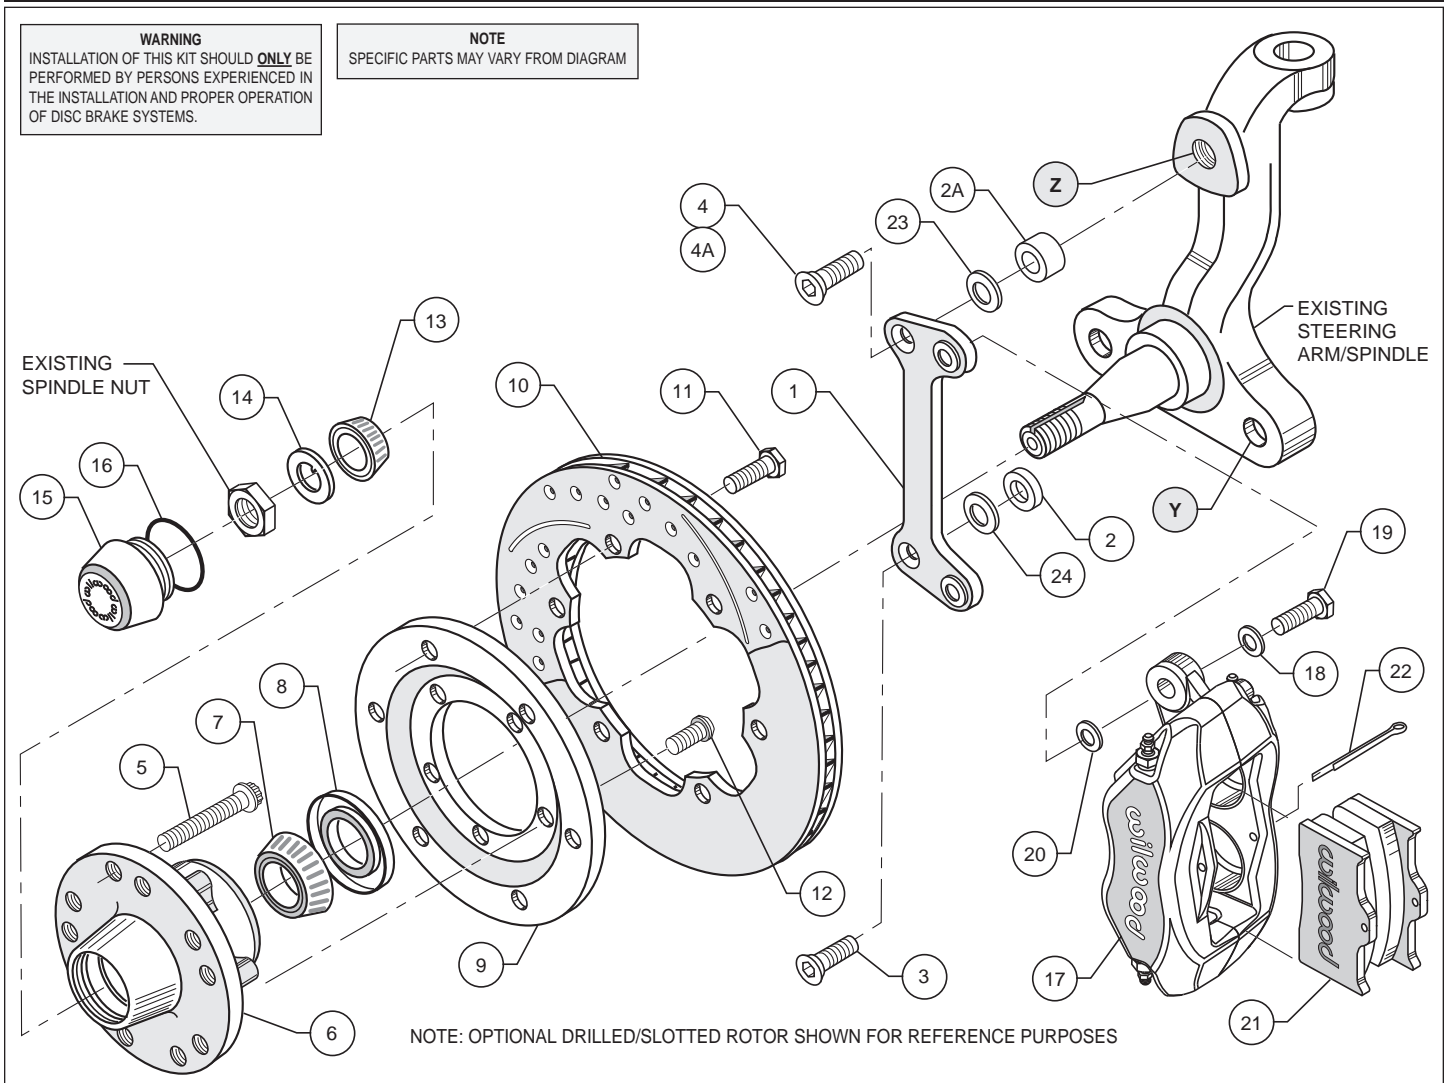
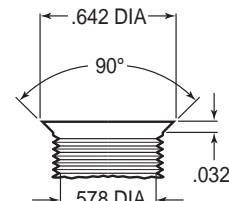

Figure 1. Typical Installation Configuration
Figure 3. Drill and Tap Detail
•**NOTE:** 1964-66 spindles may require the following modifications (reference Figure 1 and Figure 3): Top anchor pin hole (Z) must be drilled and tapped to the dimensions as outlined in Figure 3. Bottom rear steering arm bolt hole (Y) in the spindle and steering arm must be enlarged to .50" by drilling. A 1/2-20 backing nut (not supplied in kit) will need to be acquired to torque bracket / steering arm bolt (supplied in kit).
•Apply red *Loctite*® 271 to bolt threads (3 and 4, or 4A for disc spindle application) before assembly of the caliper mounting bracket (1). Mount bracket (1) to dust face plate of spindle using the bottom bolt (3) while positioning spacer (2) between bracket and spindle face, finger tighten only. Install the upper bolt 4 (or, for disc brake spindle, use 4A with spacer 2A positioned between bracket and top hole of spindle face), torque to 120 ft-lb. Torque bolts (3) to 77 ft-lb. **NOTE:** Be sure the heads of the bracket (1) insert nuts are facing outward toward the wheel. **NOTE:** Because of a tolerance variation among spindles, it may be necessary to install a shim washer (23 and/or 24) between the spacers (2 and/or 2A) and the bracket (1) in order to square the bracket to the rotor.
•Install wheel studs (5) into the hub (6). Torque to 77 ft-lb. **NOTE:** There are two five lug patterns in the hub (5 x 4.50 and 5 x 4.75). Make sure of the correct hole pattern for the correct wheel application before installing studs into hub.
•Pack the large inner bearing cone (7) with high temperature disc brake bearing grease (available from your local auto parts store) and install into the backside of the hub (6).
•Install the grease seal (8) by pressing into the backside of the hub (6).
•Mount the adapter/rotor assembly (9/10) to the hub (6) using bolts (12) (finger tight), as shown in Figure 1. Using an alternating sequence, remove bolts one at a time, apply red *Loctite*® 271 to the threads, and torque to 55 ft-lb.
•Pack the small outer bearing cone (13) with high temperature disc brake bearing grease and install into front of hub (6). Slide the hub/rotor assembly (6 and 10) with outer bearing cone (13) onto the spindle. Secure using spindle washer (14), stock adjusting nut and nut locking device. Adjust bearings per Original Equipment Manufacturer (OEM) specifications.